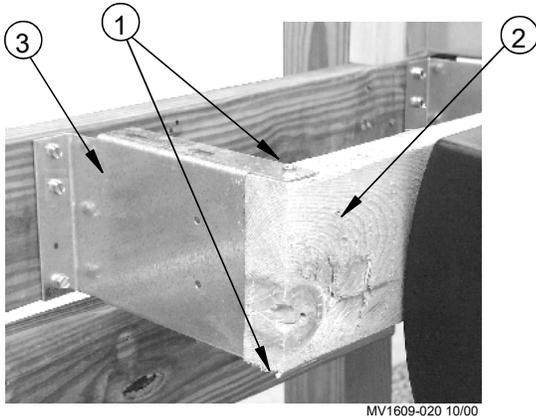

Figure 7. Bottom Bracket Connection
Important! Put lag bolt in the top and the bottom of the Bottom Bracket, as shown in Figure 7.
5. Install trough mounting 2 x 6's the full length of system using Lag Screws provided, shown in Figure 7. Use 2X Connecting Brackets (Item 1, Figure 8) to join the 2 x 6s together.